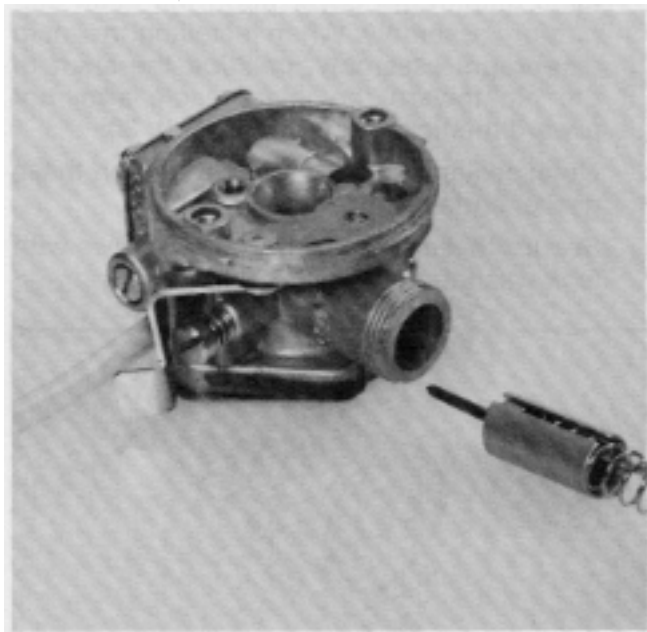

Figure 24
5. Remove the throttle adjusting screw, throttle adjusting screw spring and the high speed mixture screw. See Fig. 24.